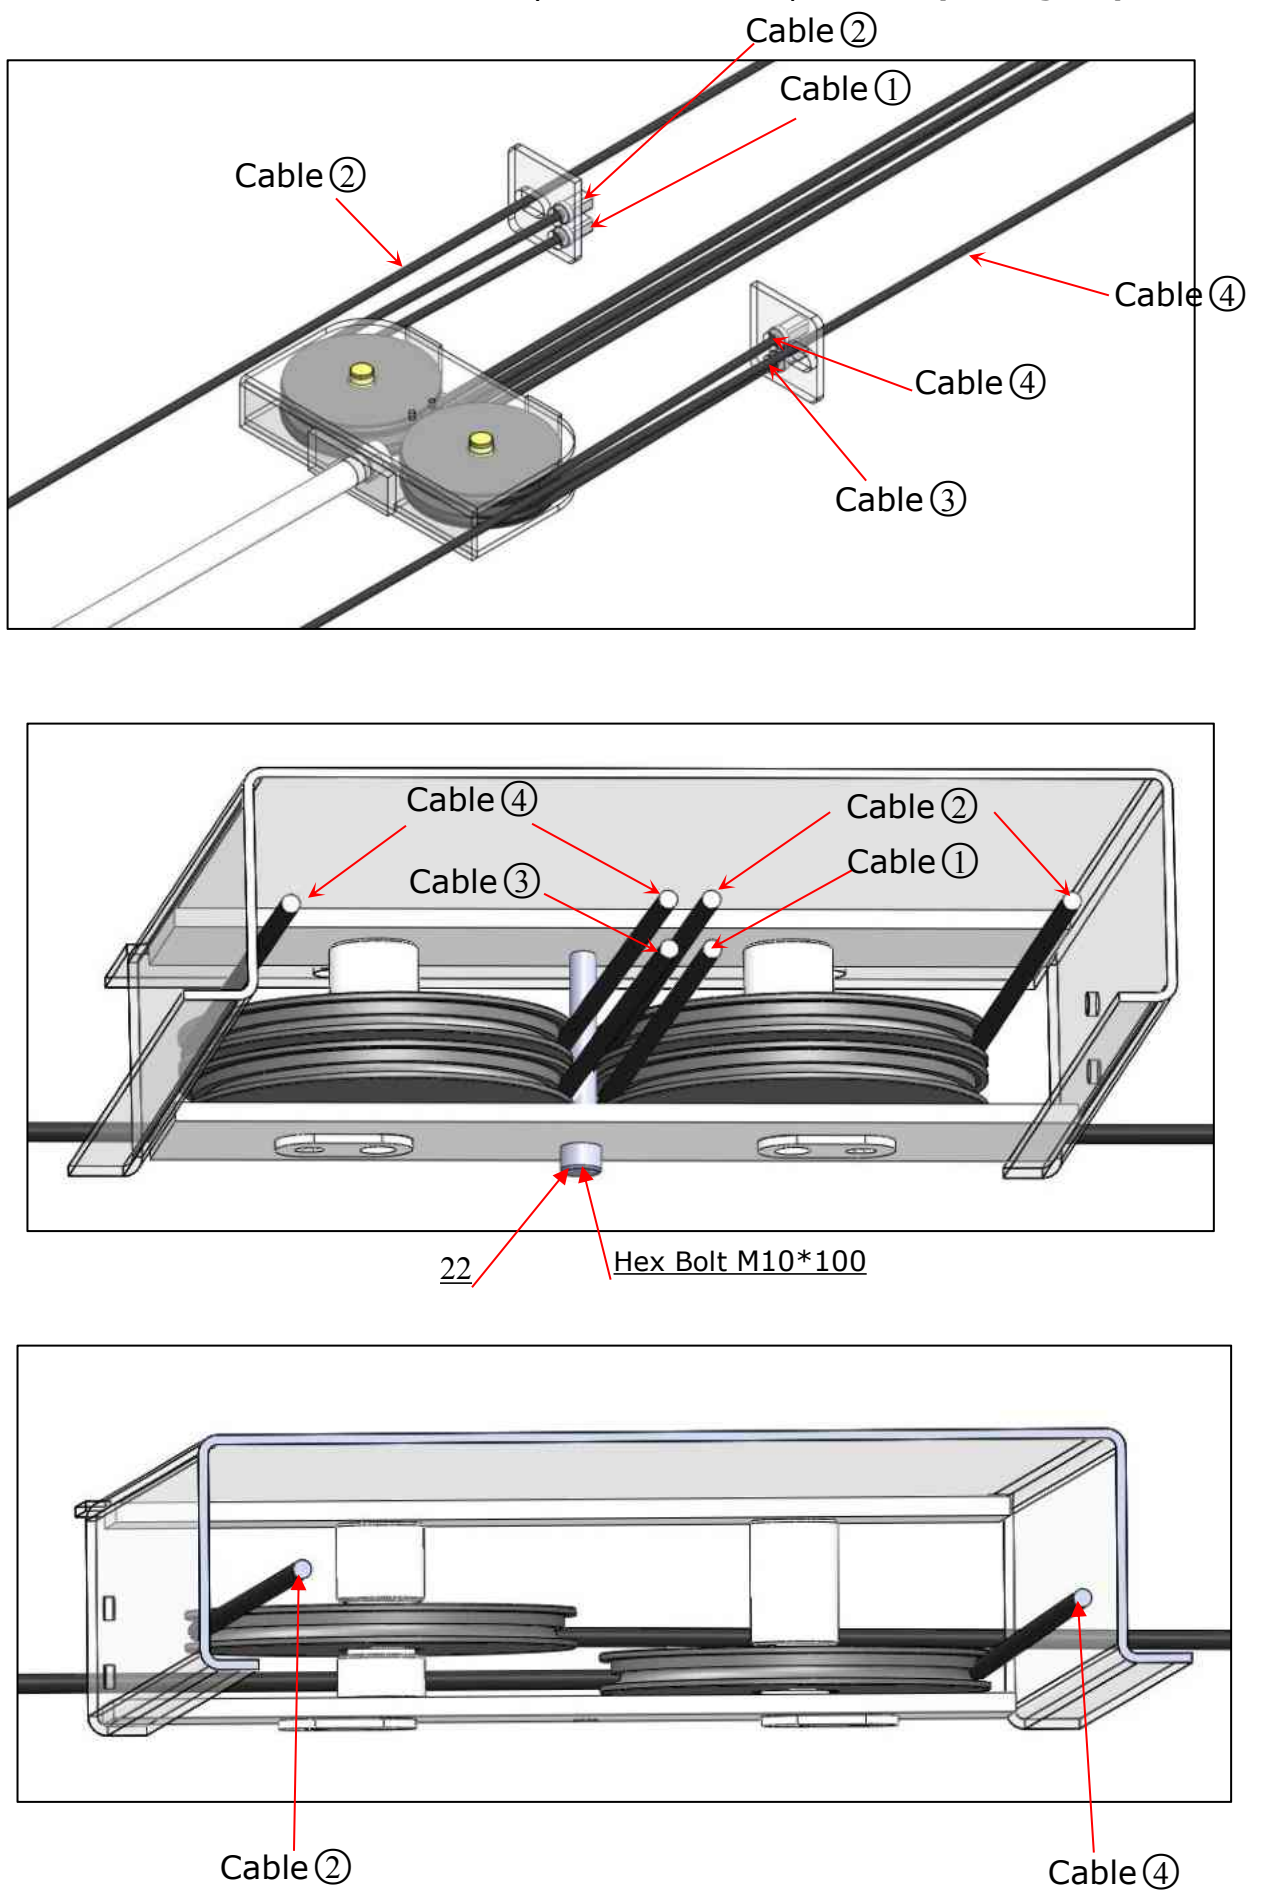

Fig. 30
3. The sketched overview of cables finally installed under platform. **(See Fig. 30).**